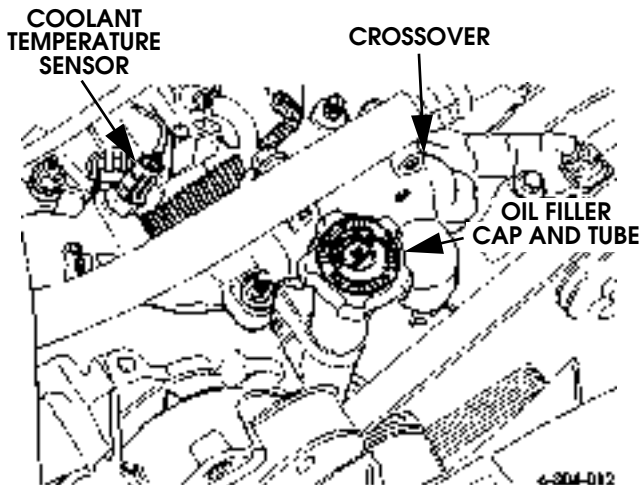

Figure 4-29: Filler Tube and Temperature Sensor Locations
3. Disconnect coolant temperature sensor wires (Figure 4-29).
4. Remove oil filler tube attaching nuts and remove filler tube (Figure 4-29).